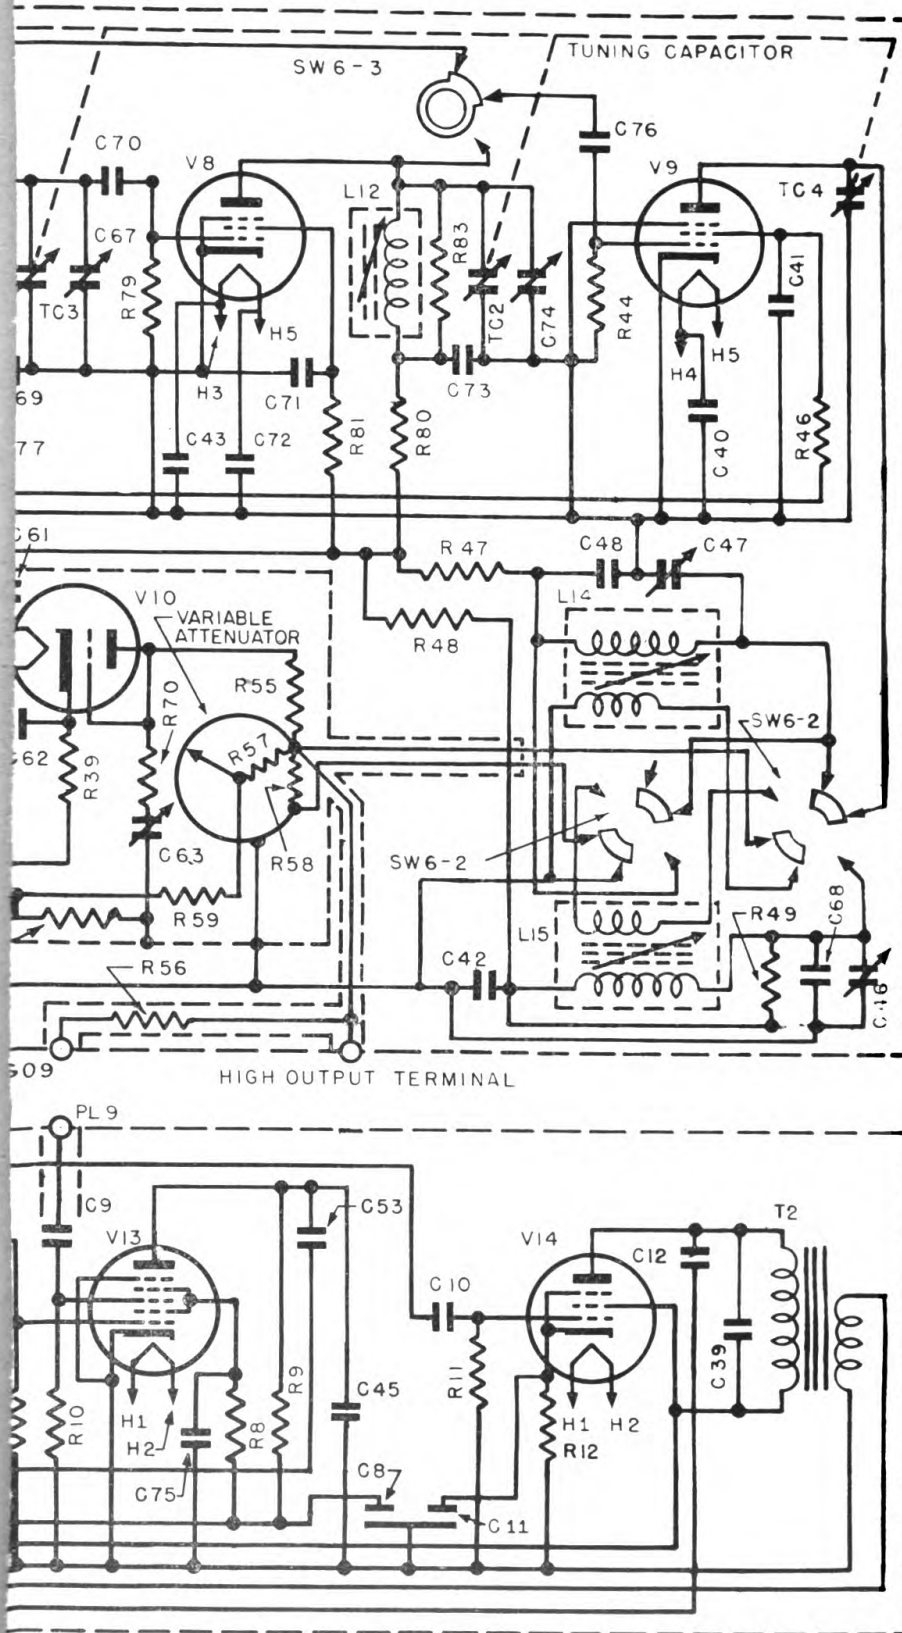

Figure 9—Signal Generator I-208, schematic diagram
b. The audio oscillator unit employs tube V_1 (commercial type 12SN7-GT) (figure 9). One triode section is used in a Hartley oscillator circuit. The frequency is determined by the amount of inductance selected from tapped choke CH-2 and by the arrangement of capacitors C-13, C-14, C-15, and C-16.